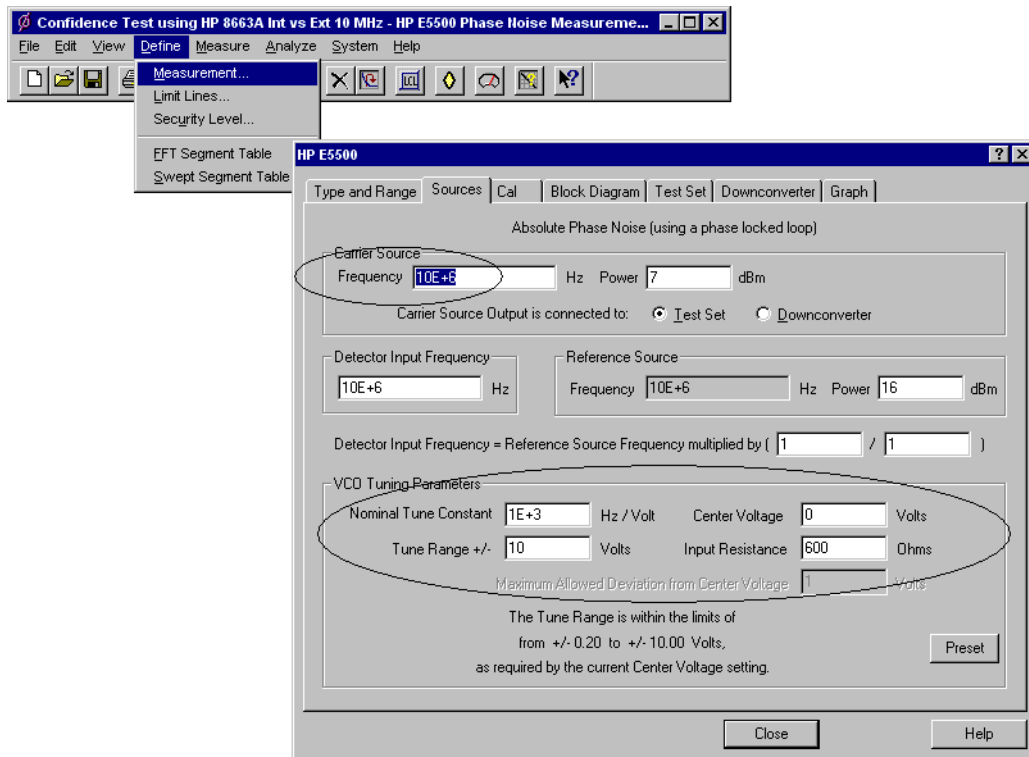

Figure 7-13 Enter Source Information
- 5 Using Figure 7-13 as a guide, navigate to the **Sources** tab.